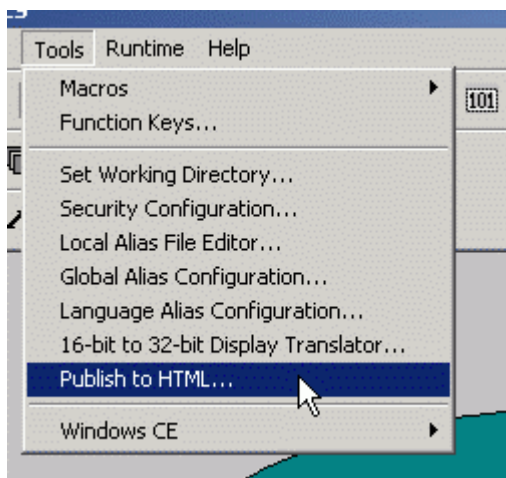

Figure 4.2. Starting the Web Publishing Wizard in GraphWorX32
3. Select **Publish to HTML** from the **Tools** menu, as shown in Figure 4.2.